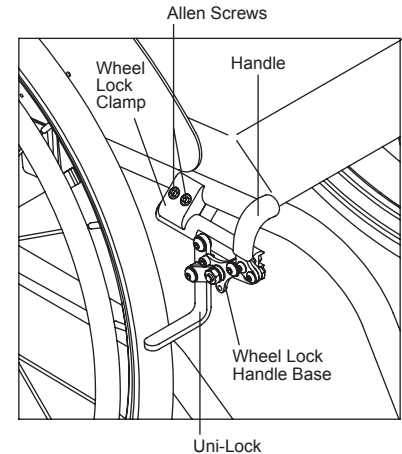

Figure 92
- Loosen the two Allen Screws in the wheel lock clamp. See Figure 92.
- Slide the old Uni-Lock out of the clamp. See Figure 92.